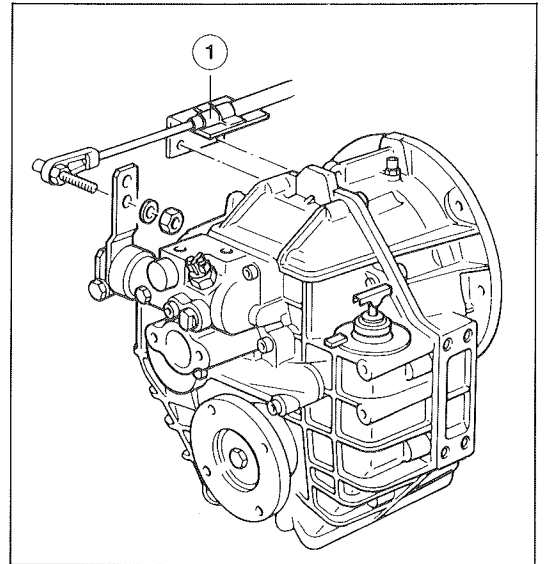

Figure 4
Two threaded holes M8, 12 mm (0.4724 in.) deep are provided on the transmission for attaching the countersupport for the Bowden cable (Figure 4, item 1).